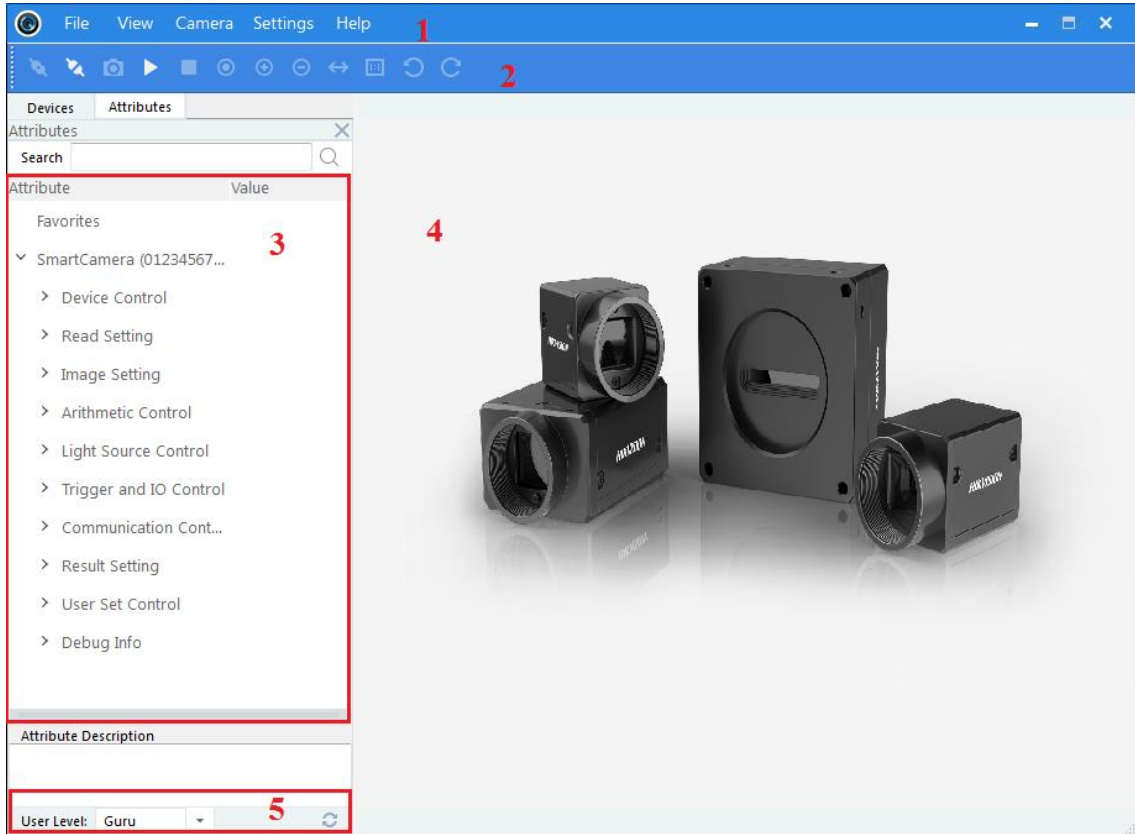

Figure 2. 15 Main User Interface of the Client Software
1. Double click the Smart MVS icon to enter the client software. The main user interface and the description of the client software are shown in Figure 2. 15 and Table 2. 1.